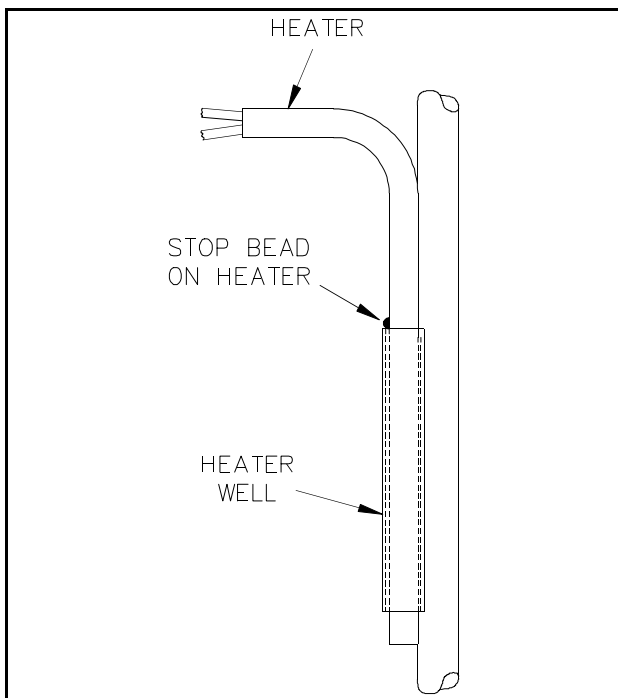

Figure 18
6. Reinstall the new heater into the well until the stop bead on the heater touches the heater well (See Figure 18).